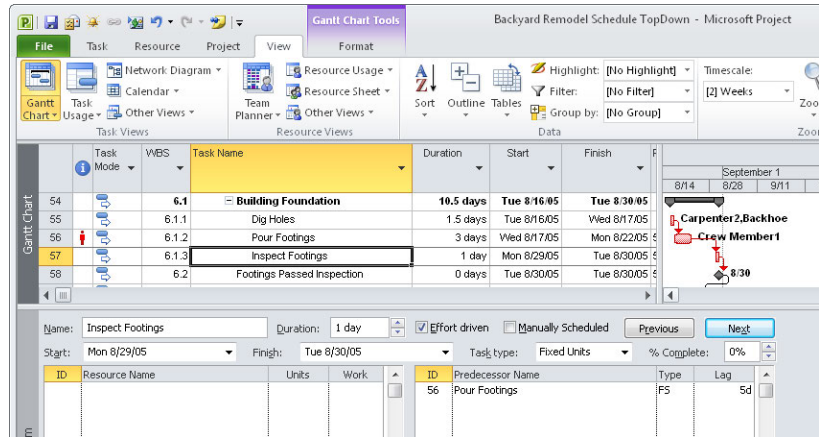

FIGURE 6-3 A task form includes fields for specifying the task dependency type and the lag between the two linked tasks.
- **Using a Microsoft Project task form** This technique is the most flexible way to create dependencies. You can choose any type of dependency or add lag to the links. On the View tab, in the Split View group, choose More Views. In the More Views dialog box, click Task Form or Task Details Form, and then click Apply. As demonstrated in Figure 6-3, the start of the footing inspection lags 5 days after the footings have been poured.
- Dragging between two tasks** If you can see the bars for both tasks in the Gantt Chart (refer to the Dig Holes task in Figure 6-3 to see an example of a Gantt Chart bar), dragging from the predecessor to the successor gives you a visual cue that you're creating the dependency correctly. You see a link from the predecessor to a link of chain on the successor, and a box pops up showing you the finish-to-start dependency you'll create when you release the mouse button.